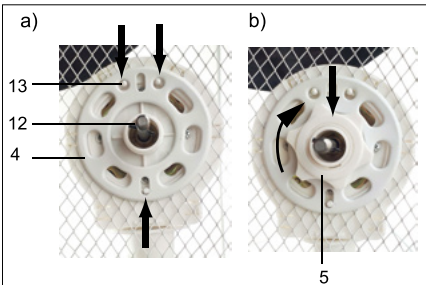

Fig. 13: Mounting of rear guard grille
1. Insert the base (3) with the motor block and the fan speed adjustment push buttons into the base (1), Fig. 13 a).